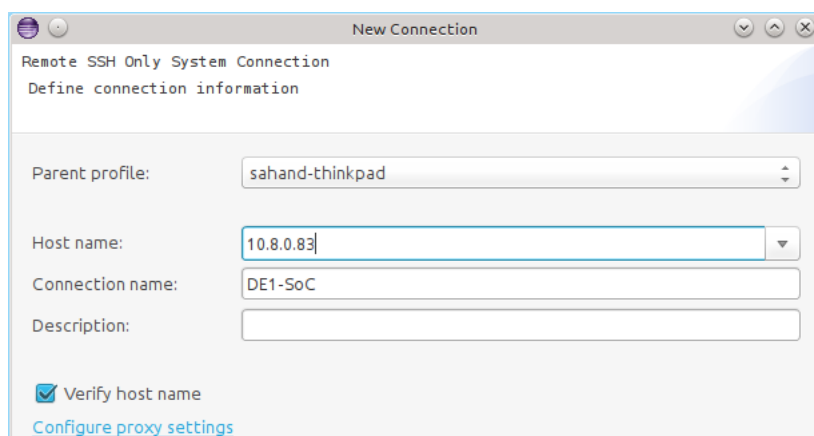

Figure 8-51. New SSH Only Connection
16. Enter “DE1-SoC” as the “Connection name”. You should have something similar to Figure 8-51.